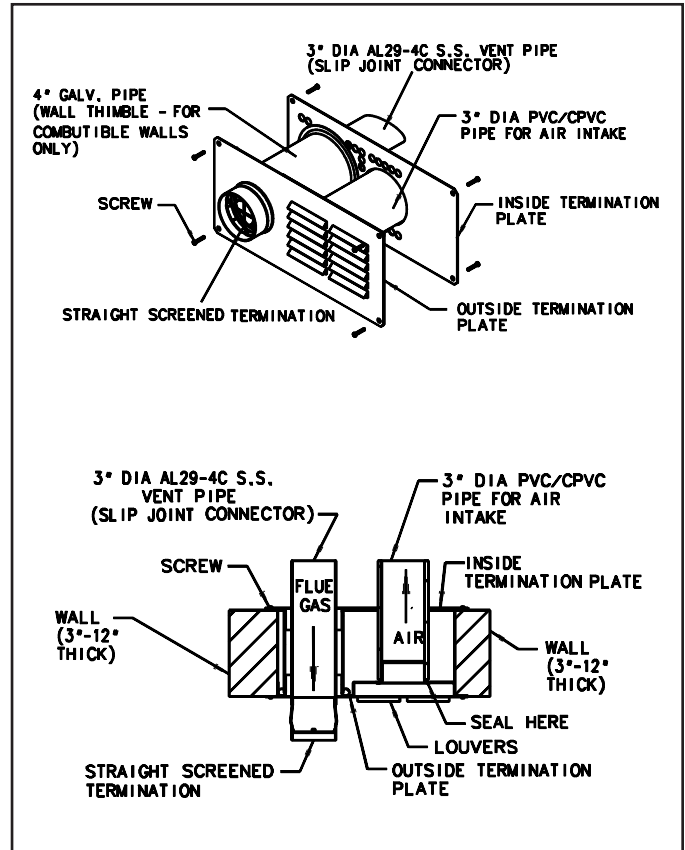

Figure 13b. Vent/Air intake termination; utilizing stainless steel venting materials.
2. Refer to Figure 13b for installation details.